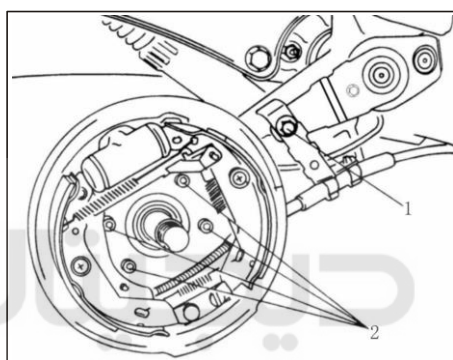
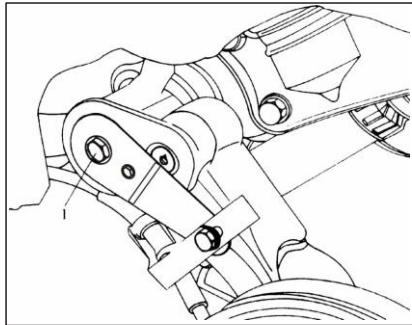

Figure 4-22 Remove Bolt
Figure 4-35 Install Bolt
- (1) Lift the vehicle with a jack.
- (2) Loosen the rear tire bolt, and then remove the wheels.
- (3) Remove the brake drum.
- (4) Screw off the stabilizer bar rocker arm fixing bolt 1, as shown in Figure 4-22.
(5) Screw off the brake backing plate bolt 2 (as shown in Figure 4-22), and then remove the brake backing plate.
(6) Install the torsion bar spring and the fixing bolt as per the fitting mark.
(7) Install the brake backing plate, tighten up the fixing bolt 2 with the torque of 37N·m (as indicated in Figure 4-22), and then install the brake drum.
(8) Remove the locating tools (locating block and localizer), install the damper, and loosely mount rather than tighten up the damper fixing bolt.
(9) As indicated in Figure 4-35, on the left side, install the bolt 1 (M8×1.25) onto the stabilizer bar, so as to fix the position of stabilizer bar and facilitate the installation of right rocker arm.